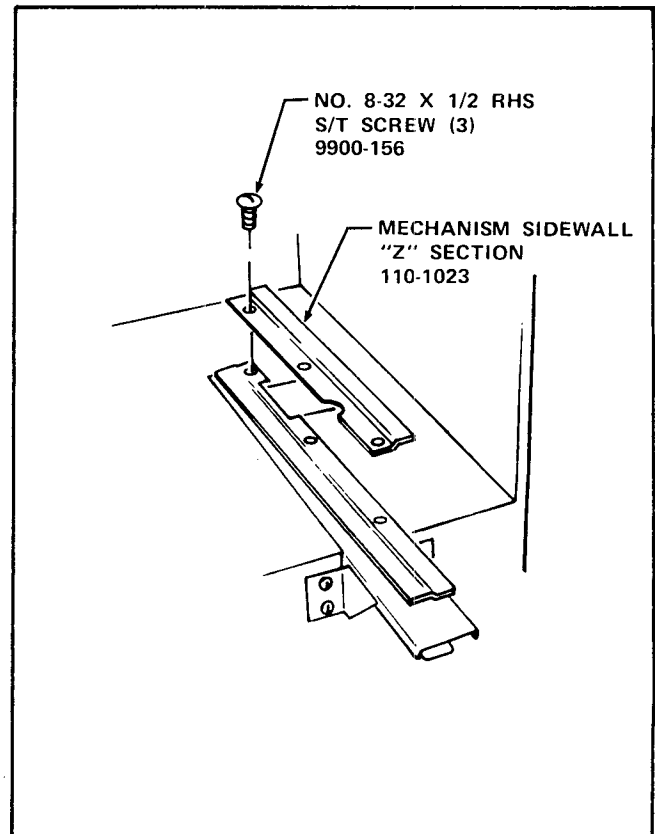

FIGURE 4-7
46. Remove three Screws from the Mechanism Sidewall "Z" Section in the lower right corner of the Merchandiser and install the Mechanism Sidewall "Z" Section, Part Number 110-1023, included in the Kit, on top of the Mechanism Sidewall "Z" Section already in the Merchandiser. Attach using three No.8-32 x 1/2 RHS Self Tapping Screws, Part Number 9900-156, included in the Kit. See Figure 4-7.